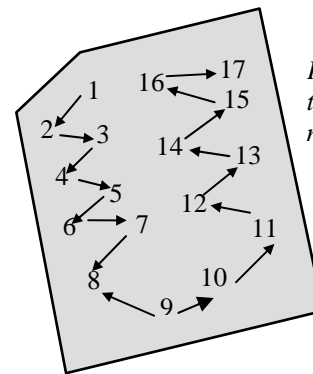

Figure 2: Sample from the entire area of the management unit.
- Follow a sampling pattern similar to that in *Figure 2*.